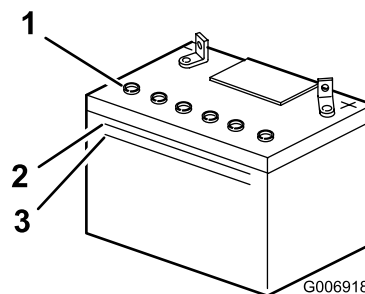

Figure 25
2. Look at the side of the battery. The electrolyte should be up to the Upper line (Figure 25).
Note: Do not allow the electrolyte to fall below the Lower line (Figure 25).
3. Remove the vent caps from the battery (Figure 25).
4. Slowly pour distilled water into each battery cell until the electrolyte level is up to the Upper line (Figure 25) on the battery case.
level is up to the Upper line (Figure 25) on the battery case.